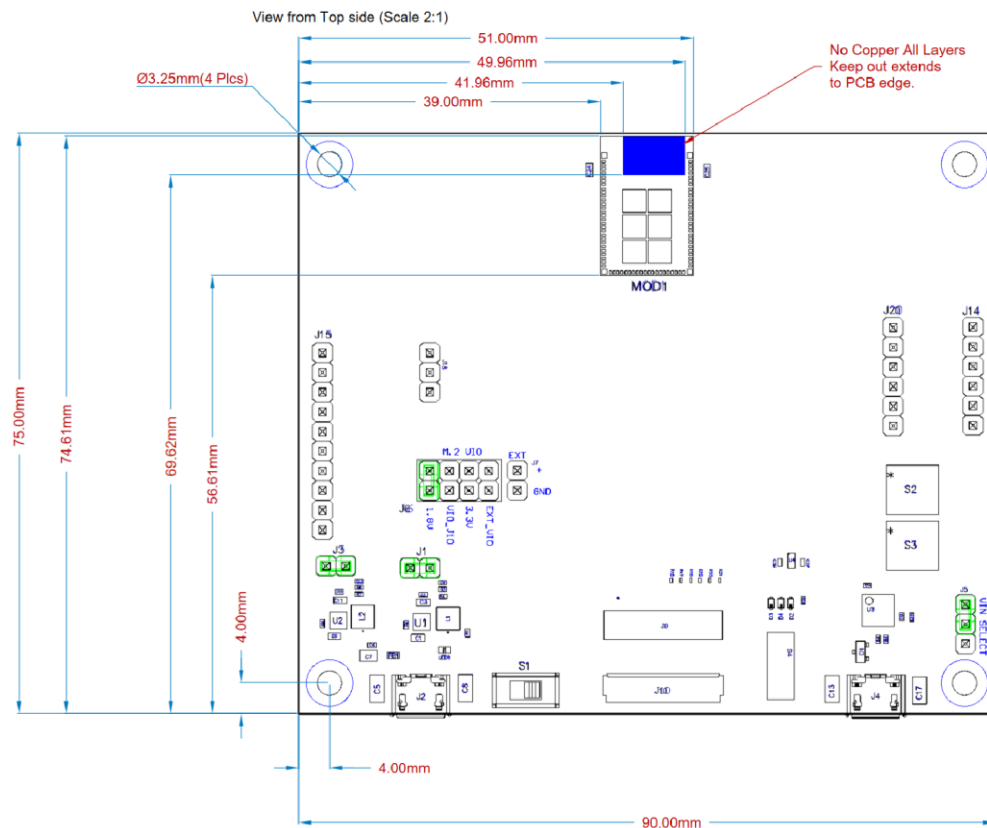

Figure 4: Sona NX611 M.2 1218 Chip Antenna Reference Board.
- The Sona NX611 Integrated antenna variant should be located at the center of the Host PCB and surrounded by ground on three sides. The antenna keep out region as defined in **Figure 4** must be kept clear of copper on all layers of the host PCB.